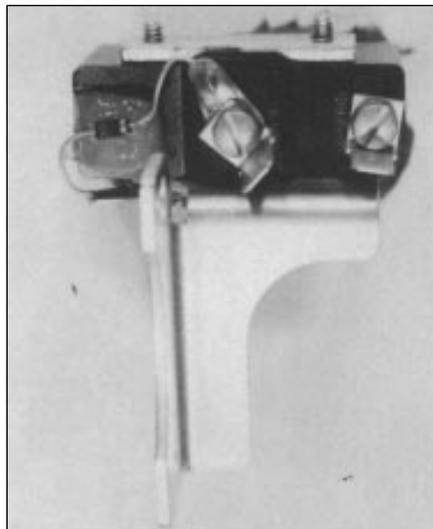

Fig. 1
3. Apply one drop of silicone rubber on the clean surface and gently press the diode into the silicone (see Fig. 1).